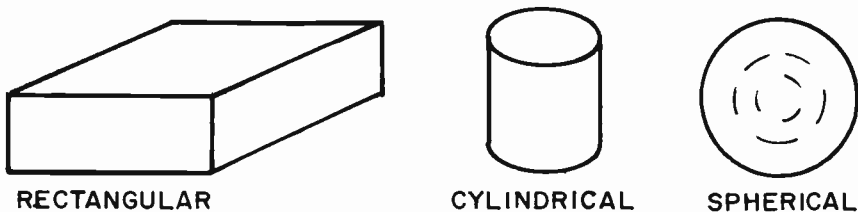

FIG. 19-8. COMMON SHAPES OF CAVITY RESONATORS.
**CAVITY RESONATORS.** A cavity resonator is formed by taking a section of a waveguide and closing it off at both ends so that it becomes a hollow metal chamber. This hollow metal chamber is actually a tuned circuit at an extremely high frequency. Fig. 19-8 shows some common shapes of cavity resonators. They can be rectangular, cylindrical or spherical. The resonant frequency of the rectangular and cylindrical cavities are independent of their heights if their heights are less than  $1/2$  wavelength. The frequency of the cavity resonator can be varied by a sliding shorting disc or by an adjustable tuning "slug" inside the cavity.